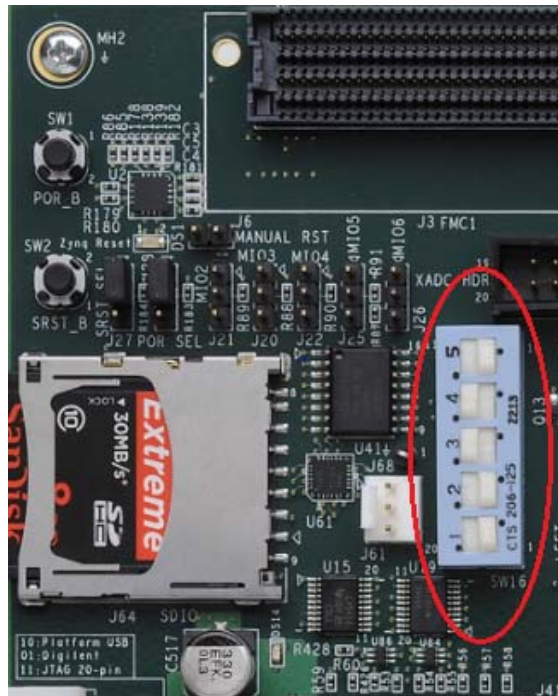

Figure 5-6: Jumper Settings for Booting Linux from SD Card
1. Change the SW16 switch setting as shown in Figure 5-6.